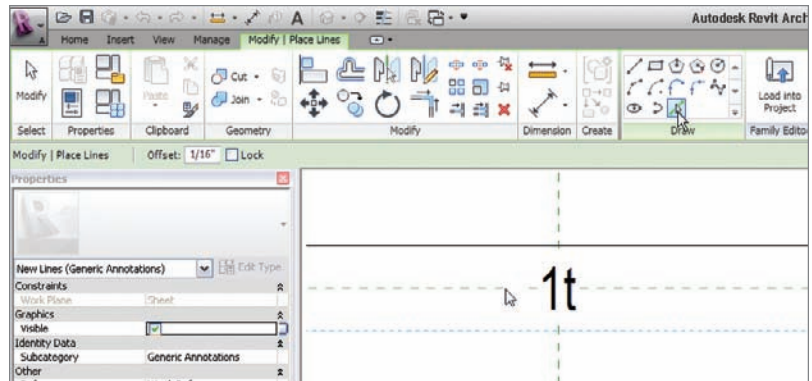

FIGURE 11.83 Offsetting the horizontal reference plane up 1/16" and down 1/16"
4. Zoom into the label, and then offset the horizontal reference plane up 1/16" and down 1/16", as shown in Figure 11.83.